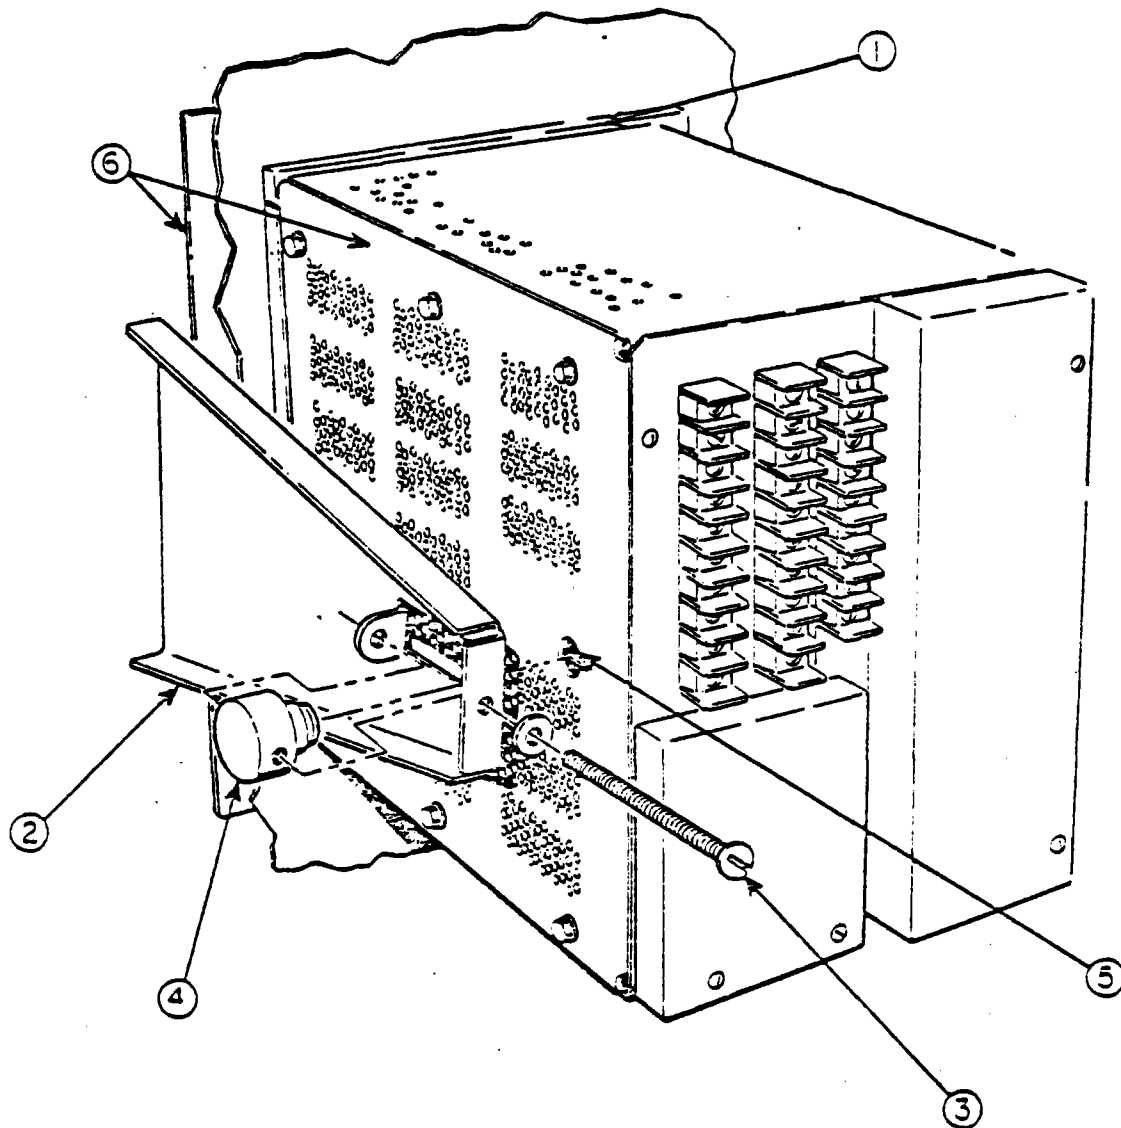

Figure 2-1. Rack-To-Panel Installation
2-10 As shown in Figure 2-1, the 9000 Series Rack Assembly is installed in the mounting panel as follows:
- b. Remove both panel clamps from the rack by unscrewing the slide screw until the slide button disengages from the keyhole slot. Refer to Figure 2-1.
- b. Remove both of the panel clamps from the rack assembly by unscrewing the slide screw until the slide button disengages from the keyhole slot. Refer to Figure 2-1.